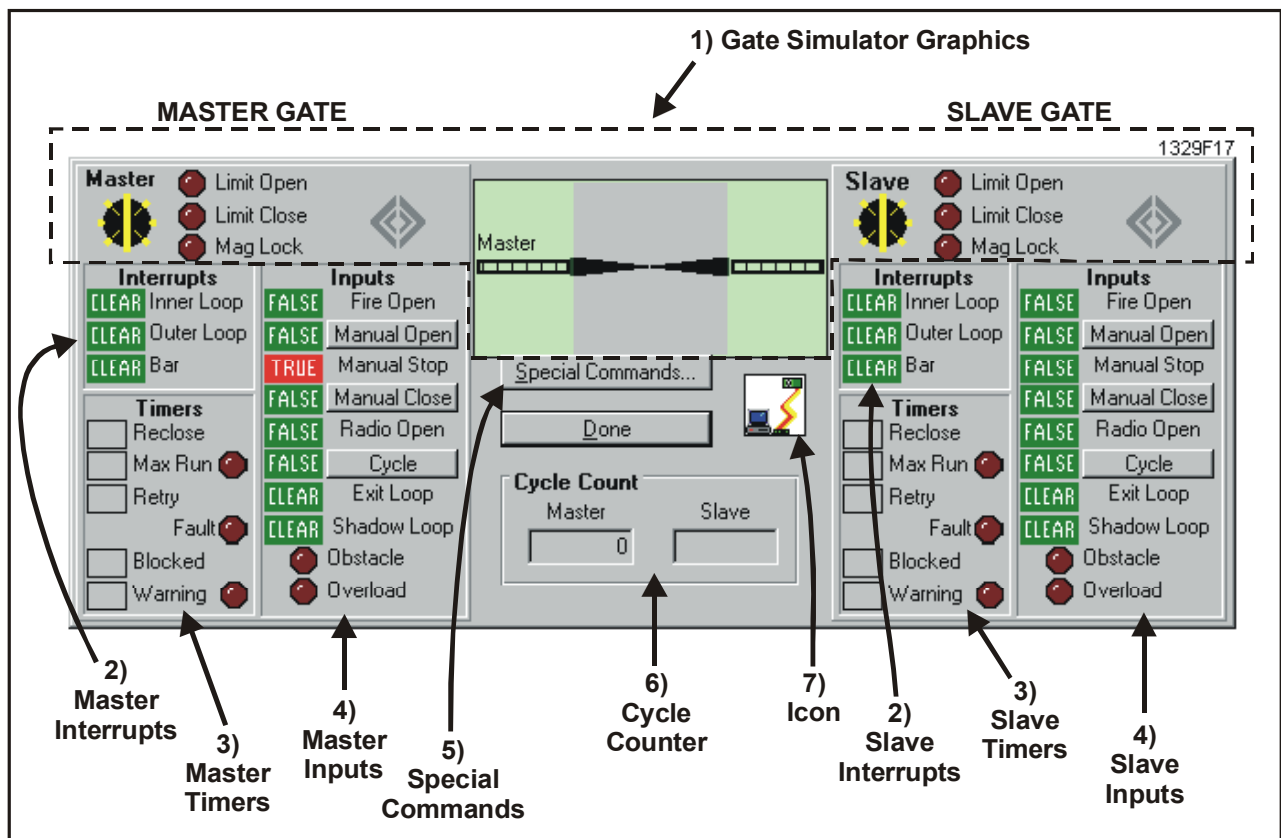

**Figure 21: Control Panel Screen (X1)**
5. **Control Panel Button** - Click on the "Control Panel" button to display the Control Panel Screen (Figure 21).
Please note that the Control Panel screen will differ for operators with X1 and X3 circuit boards. The screen for X3/X1 operators are divided into various sections as shown in Figure 21: